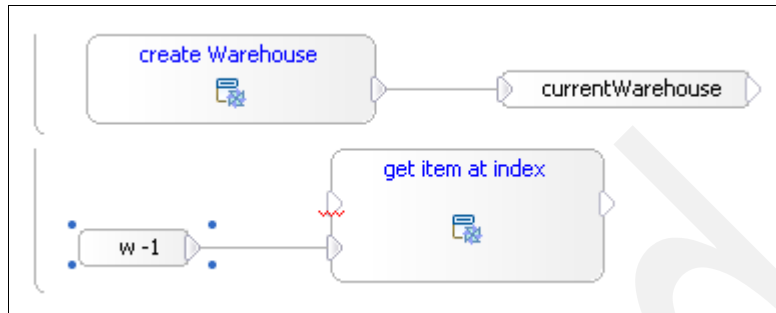

Figure 3-203 Link w - 1 to get item at index
e. Link **w - 1** to **get item at index** as shown in Figure 3-203.